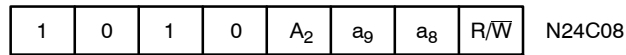

Figure 3. Slave Address Bits
The Master initiates data transfer by creating a START condition on the bus. The Master then broadcasts an 8-bit serial Slave address. For normal Read/Write operations, the first 4 bits of the Slave address are fixed at 1010 (Ah). The next 3 bits are used as programmable address bits when cascading multiple devices and/or as internal address bits. The last bit of the slave address, R/W, specifies whether a Read (1) or Write (0) operation is to be performed. The 3 address space extension bits are assigned as illustrated in Figure 3. A_2 , A_1 and A_0 must match the state of the external address pins, and a_{10} , a_9 and a_8 are internal address bits.